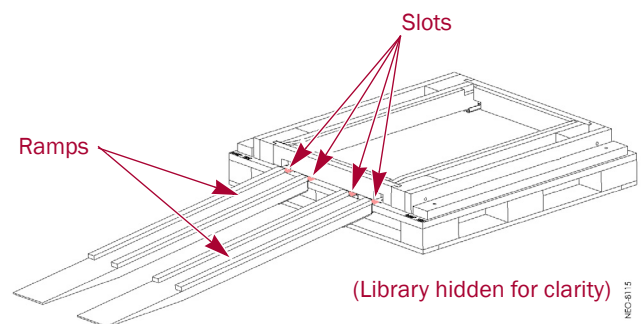

Figure 5. Placing the Ramps in Position
1. Remove the **ramps** from the RAMP box and lay them down, placing the brackets into the corresponding slots on the rear of the pallet (Figure 5).